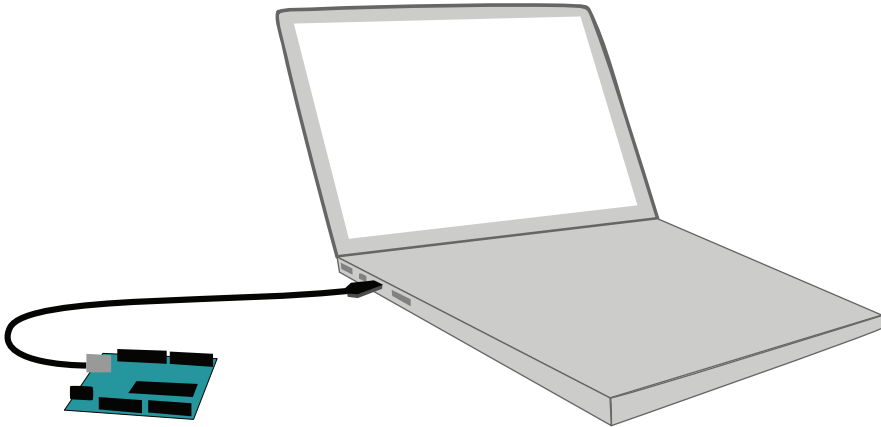

FIGURE 4.27: Make sure your computer is firmly attached to your Arduino via the USB A-B cable.
- Your USB cord is tightly plugged into both your computer and your Arduino (Figure 4.27).